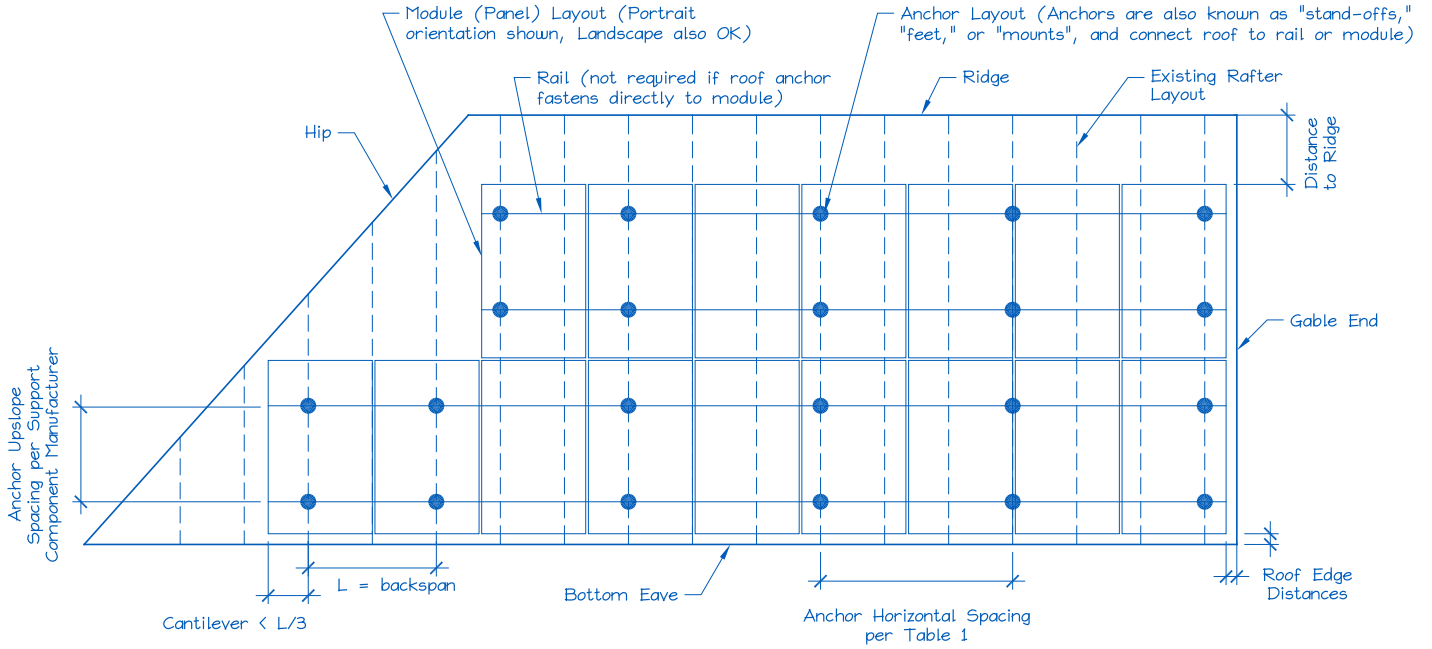

Figure 2. Sample Solar Panel Array and Anchor Layout Diagram (Roof Plan).
E. Is a roof plan of the module and anchor layout attached? (see Figure 2) Y N
- 1) Proposed anchor horizontal spacing (see Figure 2): _____' - _____"ft-in
1. Anchors are also known as "stand-offs," "feet," "mounts" or "points of attachment." Horizontal anchor spacing is also known as "cross-slope" or "east-west" anchor spacing (see Figure 2).